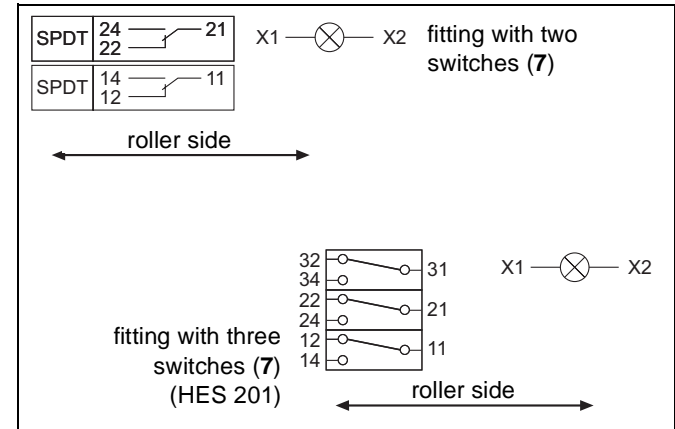

Fig. 5-5: Connection of the belt misalignment switch – with switch fitting without terminal strip
- Connect the connecting cable with the switches (7), the terminal strip (19) or the proximity switch (20) in accordance with the wiring diagrams (see Figs. 5-5 to 5-8).